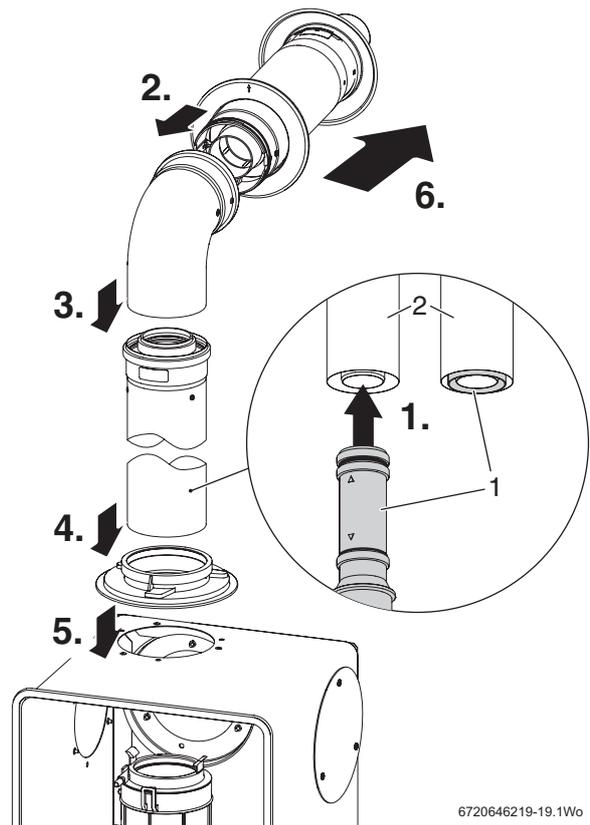

Fig. 21 Assembling the extensions
1. Referring to figure 21, slide the vertical flue adaptor over the inner flue tube. Push the adaptor almost all the way into the flue, leaving enough of the adaptor showing to be able to pull the adaptor down later, as shown in the inset of figure 21.